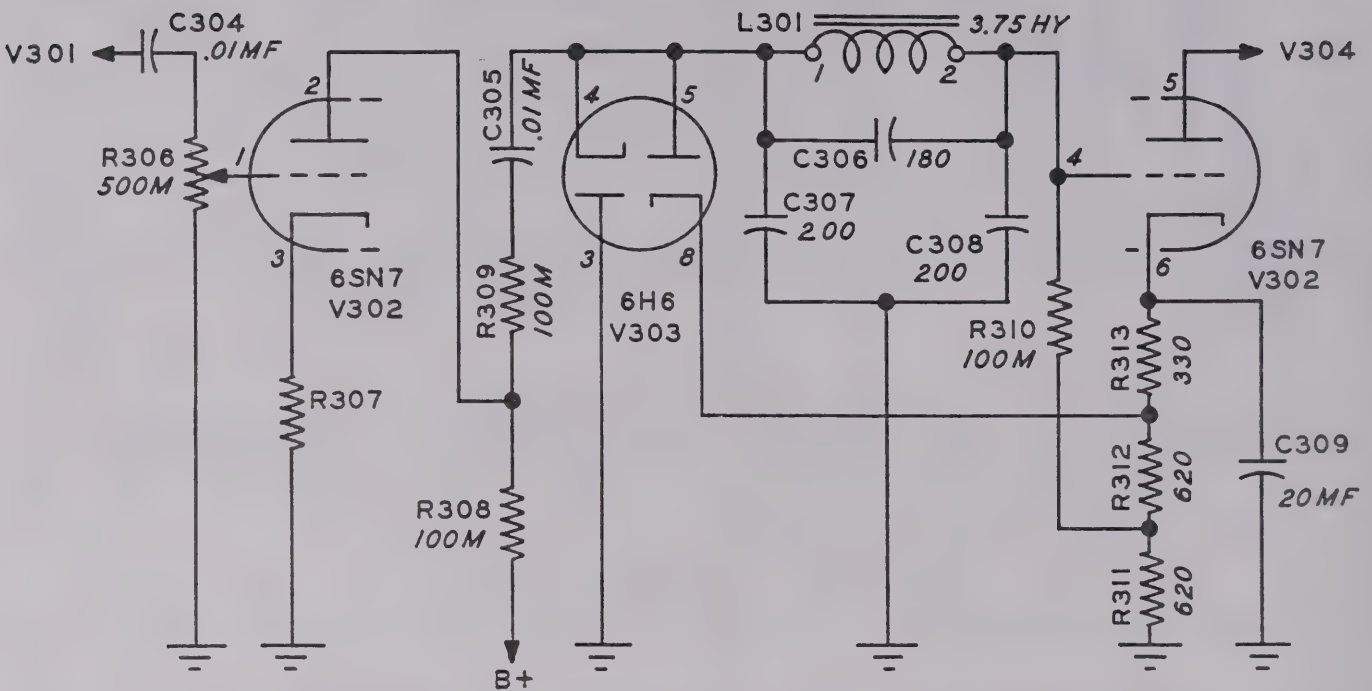

Figure 4-3. Audio Peak Clipper Circuit
4.5.2. SPEECH AMPLIFIER CIRCUITS. - A type 6SJ7 pentode, V301, is employed as a high gain voltage amplifier. Following the preamplifier is a type 6SN7 dual triode tube, the first section of which precedes the 6H6 clipper tube. Refer to figure 4-3. The type 6H6 clipper tube, V303, is shunted across the audio input to the second section of the type 6SN7 audio amplifier tube. The cathode of one section of the type 6H6, pin number 4, is operated at a small fixed value of positive potential by virtue of being connected through reactor L301, resistor